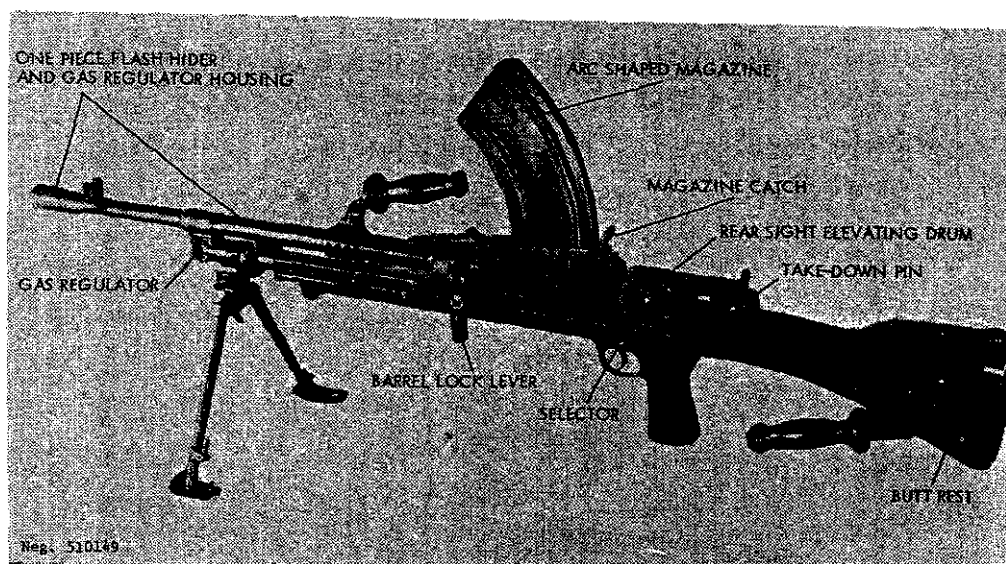
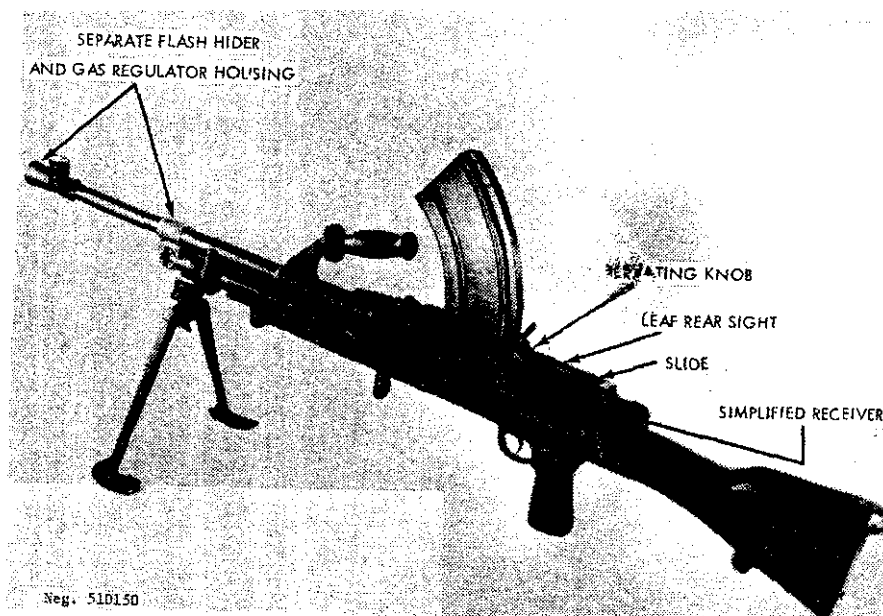
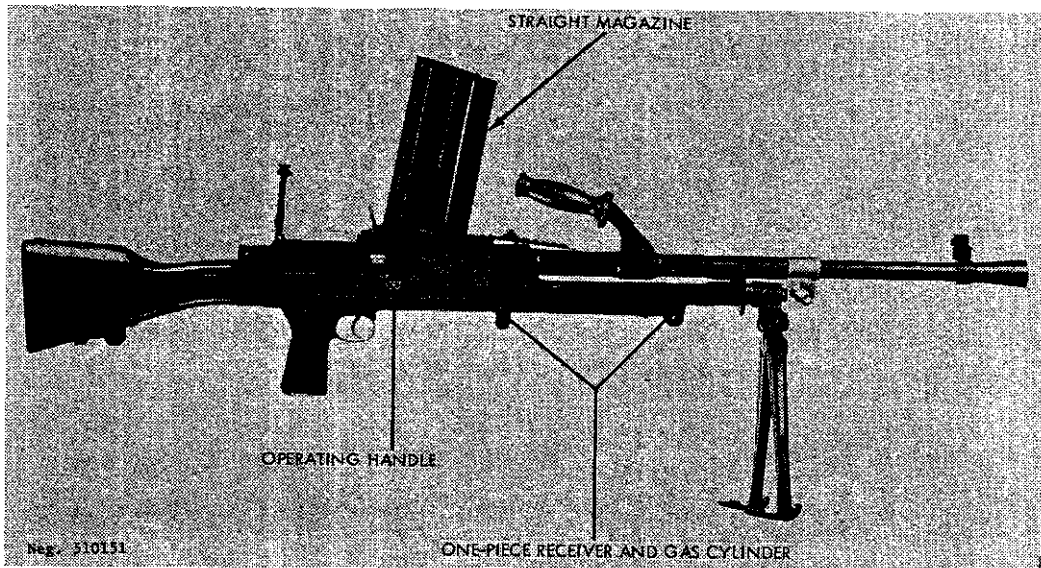

Figure 150. Mark 1 Bren.
Figure 151. Mark 2 Bren.
Figure 152. Mark 2M Bren.
a. The Bren light machinegun is a British development based on the Czech ZB30 light machinegun. The basic Mark 1 Bren (fig 150) was adopted by the British Army in 1936. Although it was an expensive and difficult to produce weapon, it
rapidly replaced all other light machineguns in the British and Commonwealth armies. Two additional models were produced during World War II, a simplified Mark 2 (fig 151) and a lightweight Mark 3 model. In addition, a special model of the Mark 2 using the 7.92x57-mm cartridge was produced in Canada for the Nationalist Chinese (fig 152).
b. The Mark 1 gun can be identified by its prominent rear sight elevating drum and one-piece stainless steel flash hider and gas regulator housing (fig 150). The other Brens have a leaf rear sight and a flash hider separate from the gas regulator housing
(fig. 151). The Mark 2 and Mark 3 guns are similar; the Mark 3 gun however, has a shortened, smaller diameter, lightweight barrel. The 7.92-mm Mark 2M Bren can be identified by its straight magazine (fig 152) as opposed to the arc-shaped magazines used in the standard .303 Mark 1, 2, and 3 Brens.
c. The leaf-sight-equipped Brens are adjusted for range by turning the knurled knob at the top of the leaf until the index mark on the slide (fig 151) is aligned with the number on the leaf that corresponds with the range in hundreds of yards (Mark 2-3) or meters (L4). For the early model Bren, turn the elevation drum (fig 150) until the desired range (in hundreds of meters) appears in the opening at the rear of the drum.
d. If necessary, slide forward the dust cover, over the magazine opening, tilt the magazine forward, and engage its front lug with the recess in the front of the magazine opening. Rock the magazine back until the magazine catch (fig 150) snaps into place.
e. Rotate the selector (fig 150) to its middle (safe) position. Grasp the operating handle (fig 152), pull it fully rearward, and then return it forward. (Some Brens have a folding operating handle; this must be unfolded prior to use.)
f. Rotate the selector (fig 150) forward for automatic fire or rearward for semiautomatic fire. CAUTION: The gun is now ready to fire. Using a normal sight picture, aim, and press the trigger to fire. The bolt will be caught to the rear when the magazine is empty.
g. Remove the magazine by pressing the magazine catch (fig 150) toward the magazine; at the same time press the magazine forward and rotate it out of the gun. Reload as described in paragraph c above. The gun does not have to be recocked after reloading.
h. The Bren machineguns have quick-change barrels. Remove the magazine; press the latch on the inside of the barrel lock lever (fig 150) into the lever to release the lever from the receiver. Rotate the lever up as far as possible, and by means of
i. The Bren guns have adjustable, rotary gas regulators (fig 150). The regulator can be set at four positions, each indicated by a different-sized dot drilled into the side of the regulator. The smallest gas port is used when the smallest dot is positioned between the barrel and the gas-cylinder tube. The regulator is changed to the next largest port whenever failure to eject occurs. To change regulator position, remove the barrel, and using a cartridge or combination tool, rotate the regulator 90°. Reinstall the barrel.
b. Press out the takedown pin (fig 150) from left to right and slide the butt and trigger mechanism rearward out of the receiver.